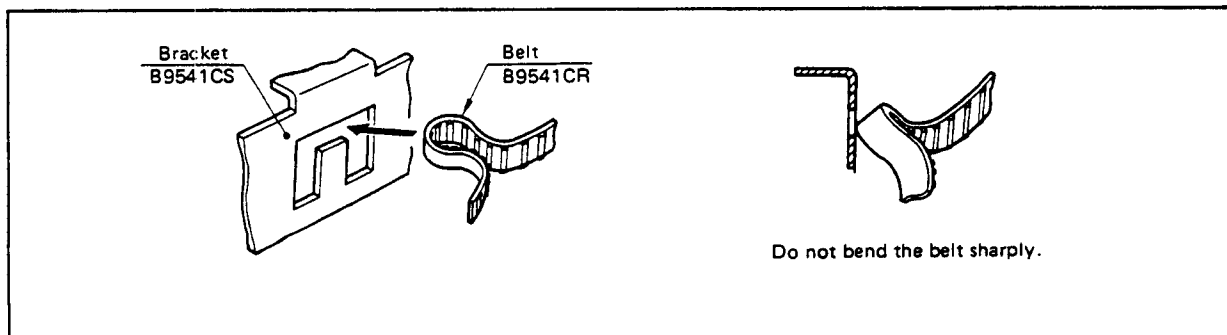

Figure 11-8.
- 1) With the slotted side of the belt (B9541CR) facing you, insert the belt in the hole at the middle of the bracket (B9541CS) as shown in Figure 11-8. At this time, do not bend the belt sharply as shown in the right figure.